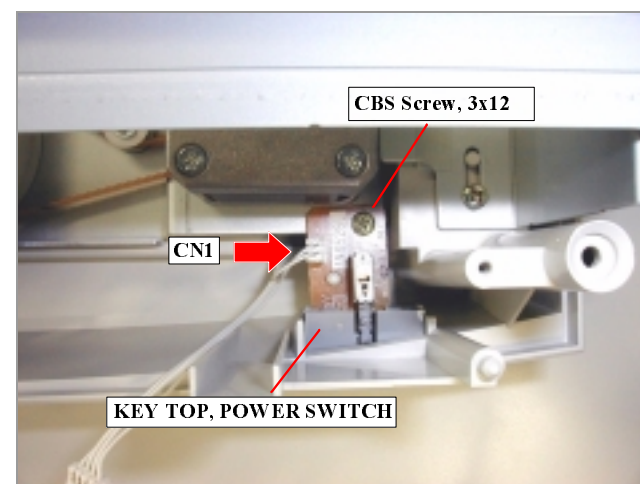

Figure 4-2. Operate Switch Board Removal
4. Remove the "KEY TOP, POWER SWITCH". (See Figure 4-2.)